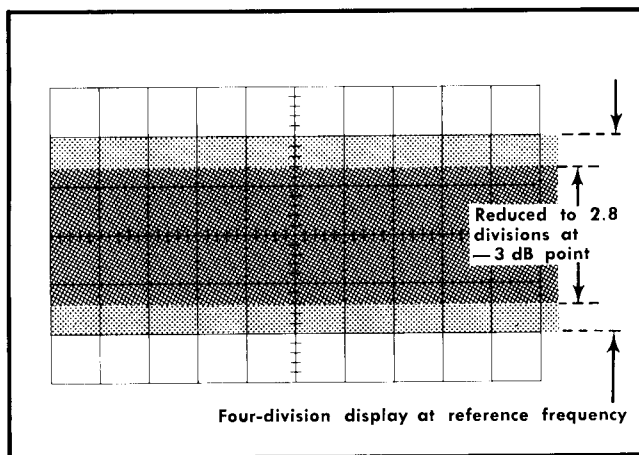

Fig. 6-29. Typical CRT display when checking vertical bandwidth.
e. Without changing the output amplitude, increase the output frequency of the generator until the display is reduced to 2.8 divisions (-3 dB point; see Fig. 6-29).
- d. Without changing the output amplitude, increase the output frequency of the generator until the deflection is reduced to 2.8 divisions (—3 dB point; see Fig. 6-29).
- j. Without changing the output amplitude, increase the output frequency of the generator until the deflection is reduced to 2.8 divisions (—3 dB point; see Fig. 6-29).
- e. Without changing the output amplitude, increase the output frequency of the generator until the deflection is reduced to 2.8 divisions (—3 dB point; see Fig. 6-29).
- k. Without changing the output amplitude, increase the output frequency of the generator until the deflection is reduced to 2.8 divisions (—3 dB point; see Fig. 6-29).
- d. Without changing the output amplitude, increase the output frequency of the generator until the deflection is reduced to 2.8 divisions (−3 dB point; see Fig. 6-29).
- d. Without changing the output amplitude, reduce the output frequency of the generator until the deflection is reduced to 2.8 divisions (-3 dB point; see Fig. 6-29).
- i. Without changing the output amplitude, reduce the output frequency of the generator until the deflection is reduced to 2.8 divisions (-3 dB point; see Fig. 6-29).